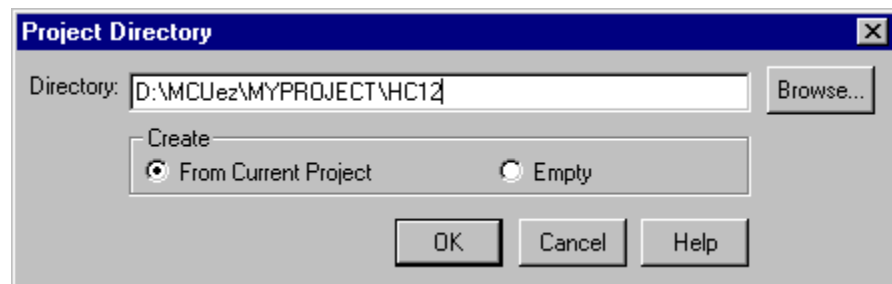

Figure 3-4. Defining a New Project
4. Enter the directory path or browse to the directory, as shown in Figure 3-4.